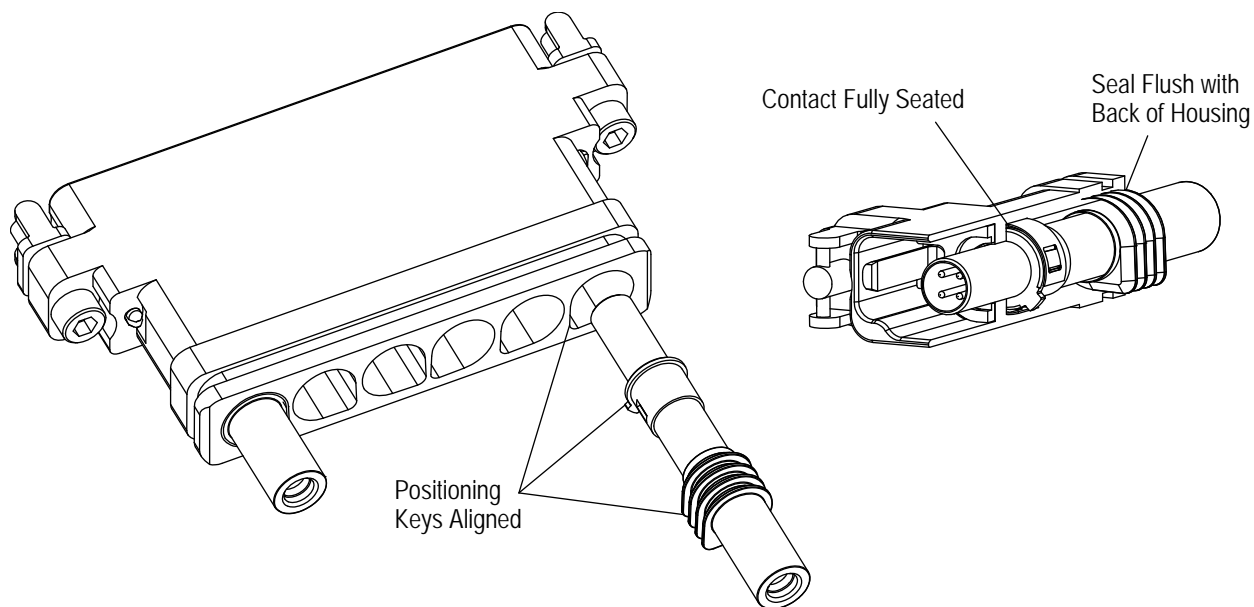

Figure 3
1. Line up the positioning key with the internal key (Quadrax and Non-Concentric Twinax Connectors only) on the connector. See Figure 3.
1. Line up the positioning key (Quadrax and Non-Concentric Twinax Connectors only) with the internal key on the connector. See Figure 3.